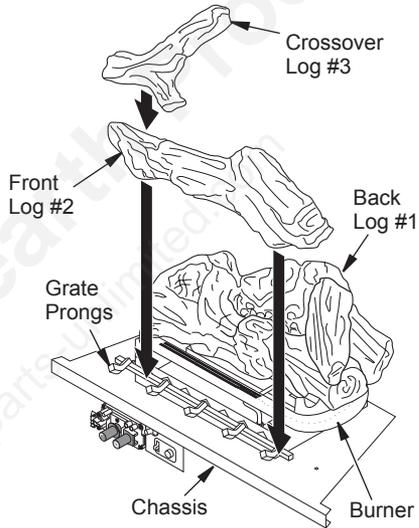
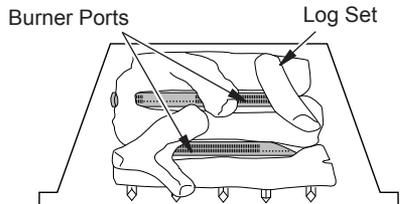

Figure 24 - Installing Log Set
Figure 25 - Installing Log Set, Top View
**NOTICE: Most building codes do not permit concealed gas connections. A flexible gas line is provided to allow accessibility from the fireplace (see Figure 24). The flexible gas supply line connection to the equipment shutoff valve should be accessible.**
1. Place back log #1 on grate to fit as illustrated in Figure 24. Make sure middle section at bottom of log set is seated into "U"-shaped cutout in center of chassis (see Figure 24). **IMPORTANT:** Make sure log does not cover any burner ports (see Figure 25).
2. Place front log #2 against front grate prongs as shown in Figure 24.
3. Place crossover log #3 on top of front and back logs as shown in Figure 24.